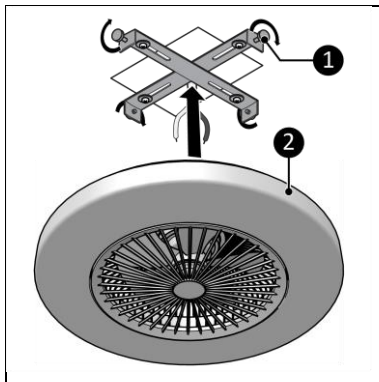

Figure 6
9. Use the side screws (Figure 6, pos. 1) to attach the fan (Figure 6, pos. 2) to the suspension bracket.